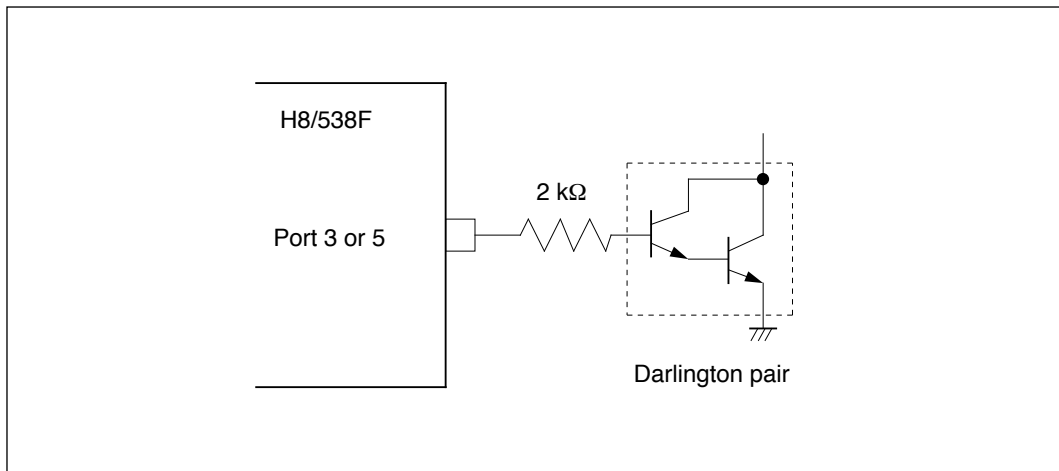

Figure 18-1 Darlington Pair Drive Circuit (Example)
2. When driving a Darlington pair or LED, always insert a current-limiting resistor in the output line, as shown in figures 18-1 and 18-2.